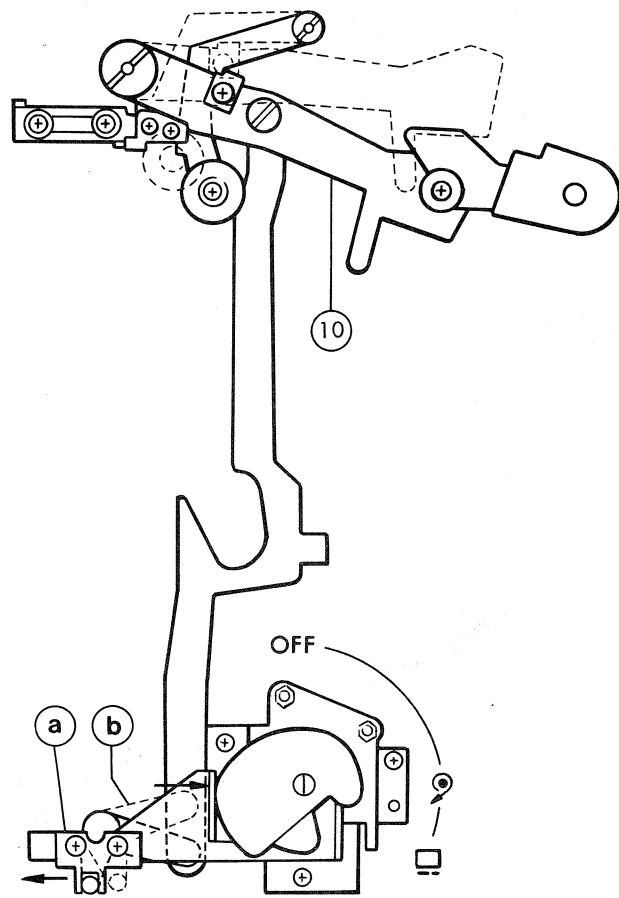

Fig. 20
2. Unscrew ⑦, ⑯ ~ ⑰ to remove the assy parts of ① ~ ⑯.
3. Refer to Fig. 20 for disassembly of ① ~ ⑯.
4. Unscrew ⑭ to remove ⑮.
5. Remove ⑯ from ⑯, and unscrew ⑯ to remove ⑯.
1. Replace if scratch and deformation are found in ③, ⑪ and ⑬.
3. Since the upper loop quantity is determined by the stroke of ⑮, install ⑧, so that ⑮ lightly touches ⑯.
4. Turn the knob main to OFF, and in case ⑩ has play at the top and bottom, press ④ and ⑤ in Fig. 20 in the direction of arrow mark, and adjust their fixing positions, so that there is no play in ⑩.